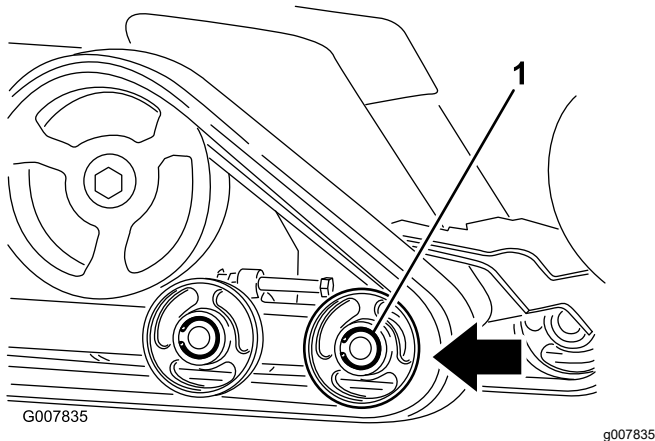

Figure 50
6. Push the front road wheel rearward as far as it can go (Figure 50).
8. When the track is off the road wheel, remove it from the machine (Figure 50).
9. Beginning at the drive wheel, coil the new track around the wheel, ensuring that the lugs on the track fit between the spacers on the wheel (Figure 50).
10. Push the track under and between the rear and center road wheels (Figure 50).